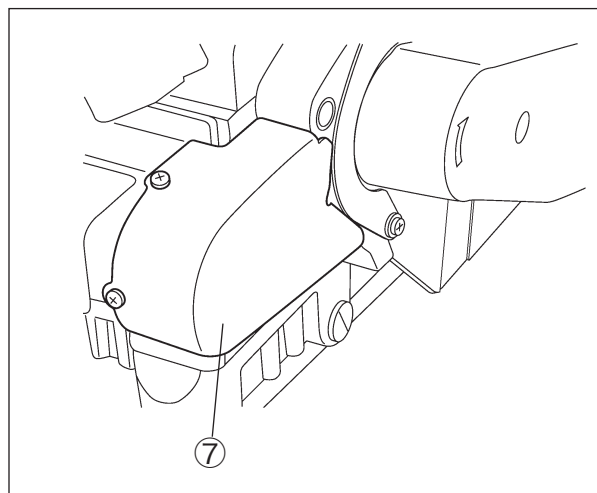

Fig. 8-10
- (4) Reset the belt cover(Small) ⑦ .(Fig. 8-10)